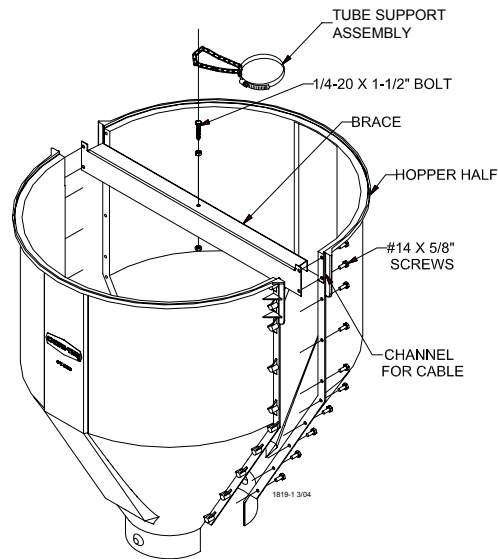

Figure 1.
2. Assemble the 1/4-20 x 1-1/2" bolt to the brace with two 1/4-20 nuts. One nut should be assembled under the brace with the other on top. This bolt is to provide a place for the tube support assembly chain to be hooked. See Figure 1.
3. Assemble the 150 lb. hopper halves and brace as shown in Figure 1, using #14 x 5/8" screws (supplied in hardware package).